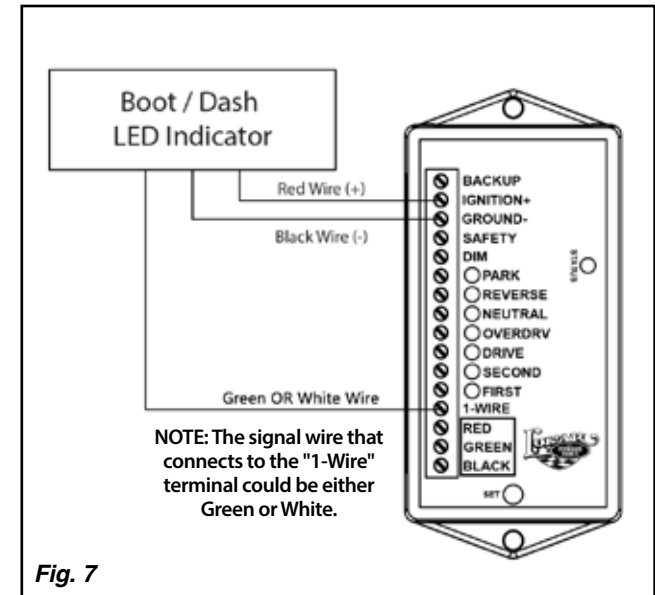

Fig. 7
**Step 10:** Connect the indicator wiring harness to the decoder box or control module. Fig. 7 Make sure the wires are not routed next to any sharp edges.
**Step 7:** Connect the indicator wiring harness to the decoder box or control module. Fig. 7 Make sure the wires are not routed next to any sharp edges.